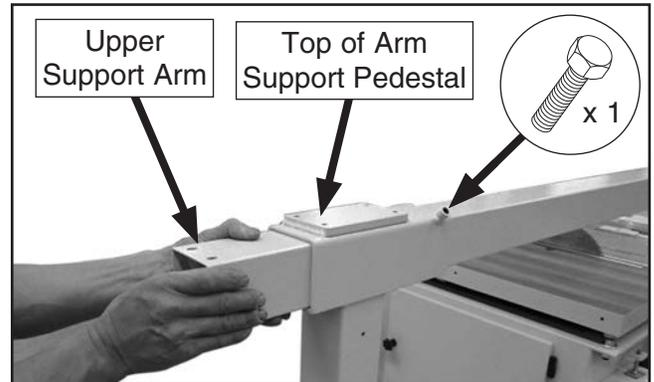

Figure 55. Installing upper support-arm.
- 64. Insert upper support arm into top of arm-support pedestal, as shown in **Figure 55**.
- 65. Install (1) M10-1.5 x 30 hex bolt into location shown in **Figure 55**. Do not tighten yet.